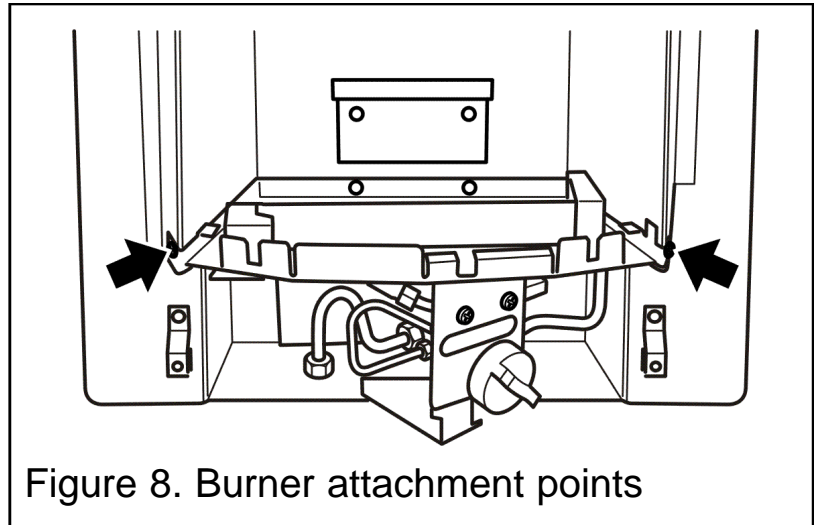

Figure 8. Burner attachment points
2. Detach the burner unit from the convector box by removing two screws - See figure 8. Lift the burner unit clear.